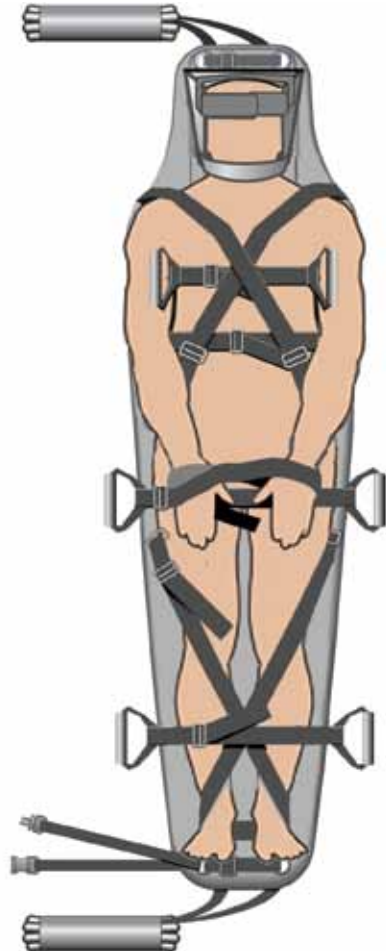

Figure 11
9. If a collar is being used, attach the velcro chin strap across the collar and to the head hugger as shown on Figure 11.